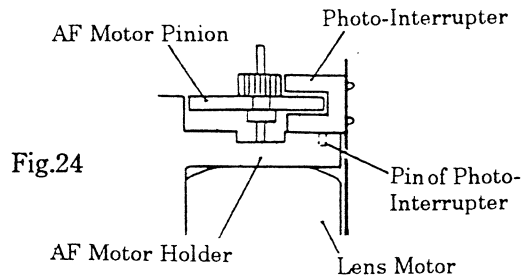

Fig.24
- 2) Install the Photo-Interrupter of AF CD-FPC (3CP50800) by fitting its pin in the hole of the AF Motor Holder Ass'y. (See Fig.24) Be careful not deform the AF Motor Pinion.